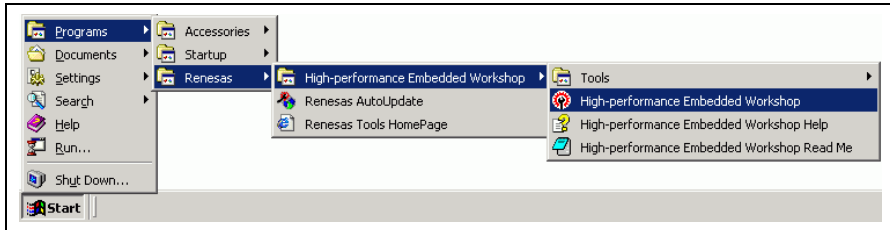

Figure 2.11 [Start] Menu
4. Activate the High-performance Embedded Workshop from the [Programs] in the [Start] menu (figure 2.11).